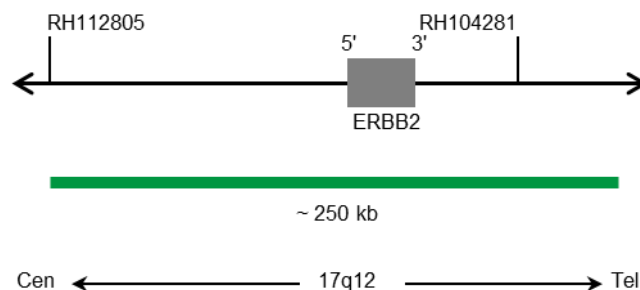

Fig. 1: SPEC ERBB2 Probe map (not to scale)
- Digoxigenin-labeled polynucleotides (~1.1 ng/ $\mu$ l), which target sequences mapping in 17q12\* (chr17:37,725,661-37,973,541) harboring the ERBB2 gene region (see Fig. 1).